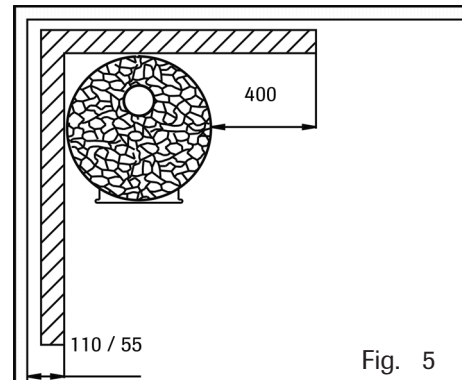

Fig. 5
5. Brickwork of 55 mm that is open at the edges and at least 30 mm clear of the surface to be protected corresponds to a single-light protection. Brickwork of 110 mm and at least 30 mm clear of the surface to be protected corresponds to double-light protection. (Fig. 5)